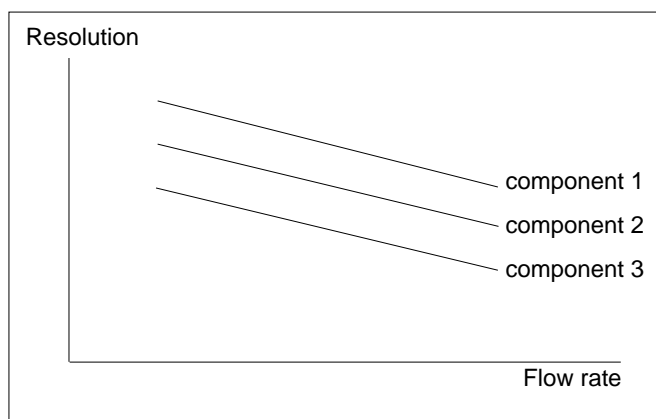

Fig. 4.
3. If necessary, resolution can be increased by reducing the flow rate (Fig. 4).